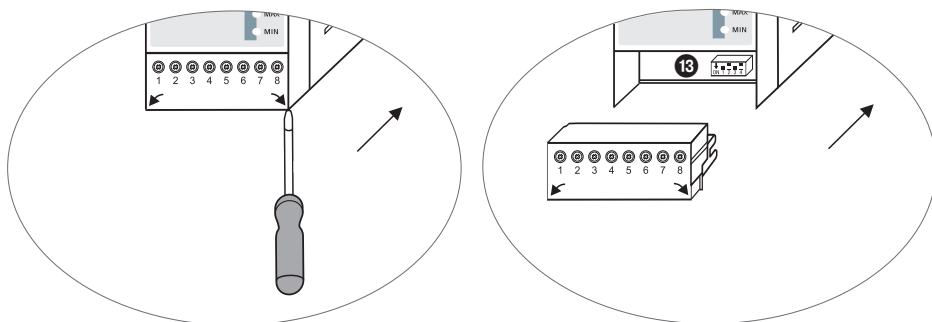

Fig. 5
■ **Remove the lower terminal strip. Fig. 5**